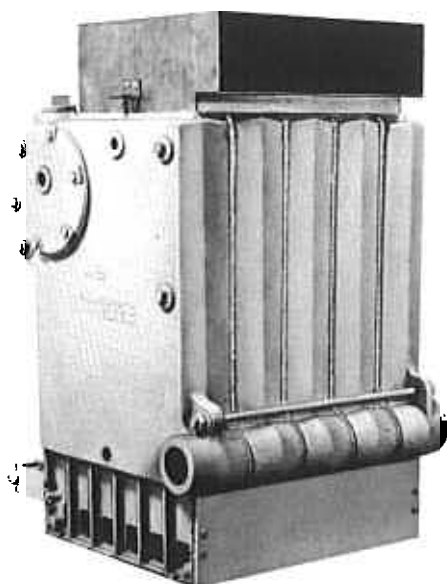
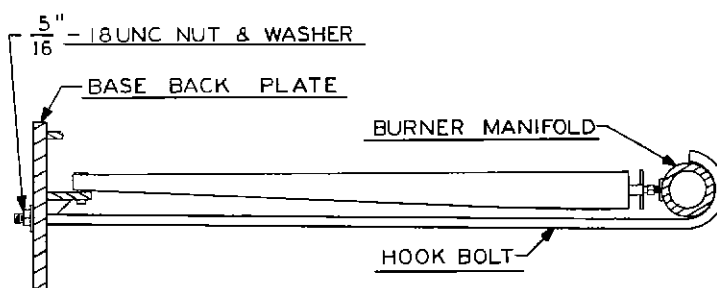

FIGURE 8
FIGURE 9
- 5—Place flue collector on top of rope and attach to boiler with two 1/4"-20 studs, washers and hex nuts provided, through flue collector brackets into the tapped lugs provided on top of the boiler end sections. Draw bolts down snugly. See Figure 8.
- 7—Remove the burners from the control box and install. Install each burner by slipping the opening in the venturi over the orifice spud. Insert the pin on the bottom of the burner into the hole provided in the flange on the base back plate. See Figure 9. The Burners with pilots attached must be installed as follows: **Note:** Hook bolt is provided on models 62-11 through 62-15.
- 12—Attach $\frac{3}{8}$ " Dia. rope to base back plate by laying rope across top of back plate flange and in rope groove on each end of back plate. Use nipple sealer to hold rope in place. Refer to figures 9 & 12. Attach base back plate by means of $\frac{1}{4}$ "-20 x $1\frac{1}{2}$ " machine screws and nuts furnished. The base back plate is attached to back of boiler. See Figure 8. Be certain that the flange portion of plate is towards the inside of the boiler.